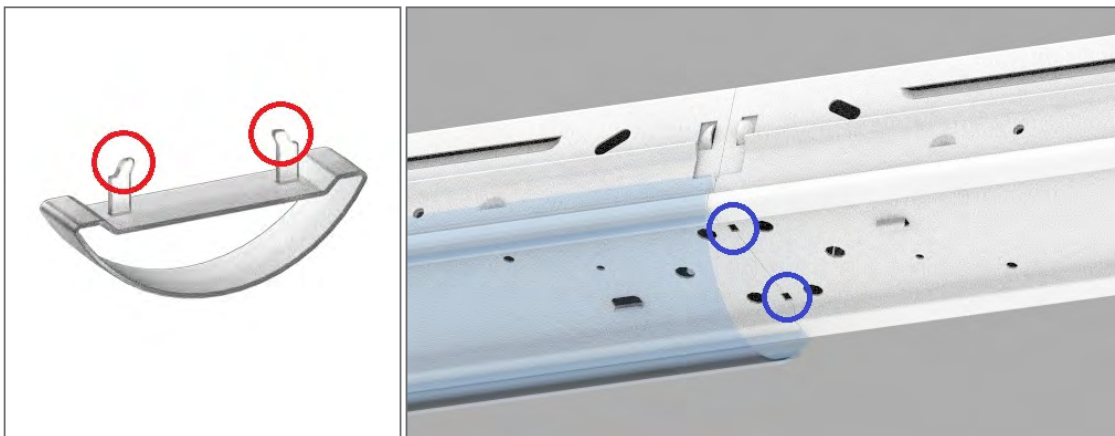

FIGURE 22
7. Insert the ends of the joiner lens's legs (circled in red Figure 22) into the cutouts of the reflector plates (circled in blue in Figure 23) and rotate the joiner piece to fit in between the outer lens and the reflector plates (Figure 18).